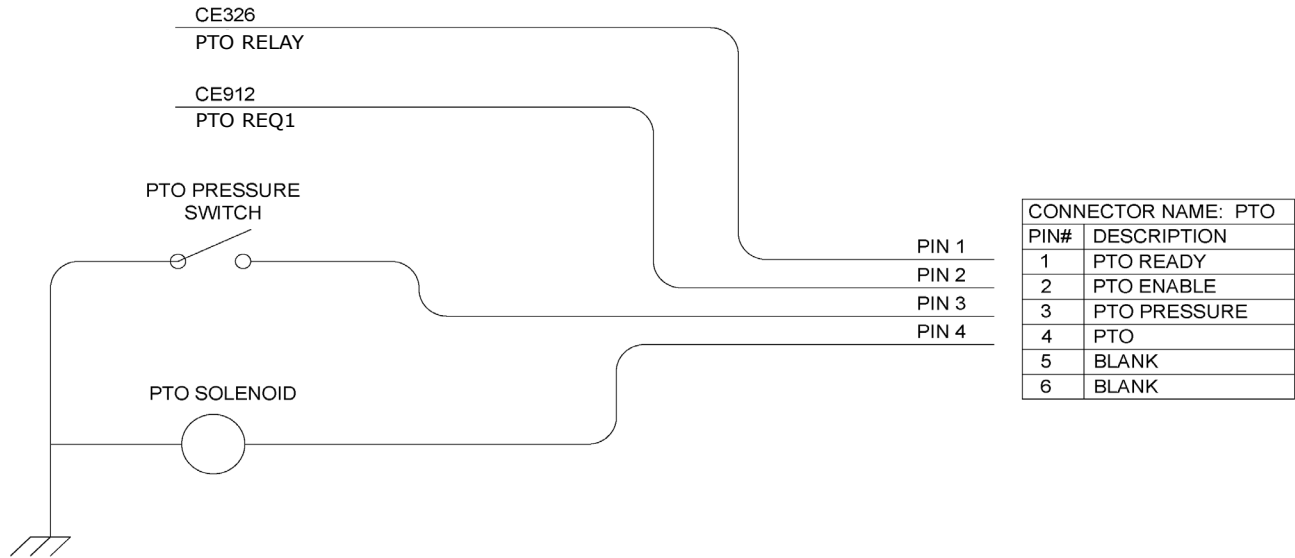

Figure 32 - PTO Activation Circuit
- Route the section of chassis harness (P/N: 475300353) with connector labeled "PTO" to location under hood and plug into housing defined in Figure 32.